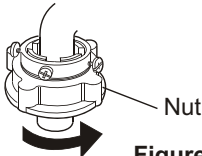

Figure 5
5. Take off the nameplate. Twist the fastening nut as per the indication of the figure. See to Figure 5.